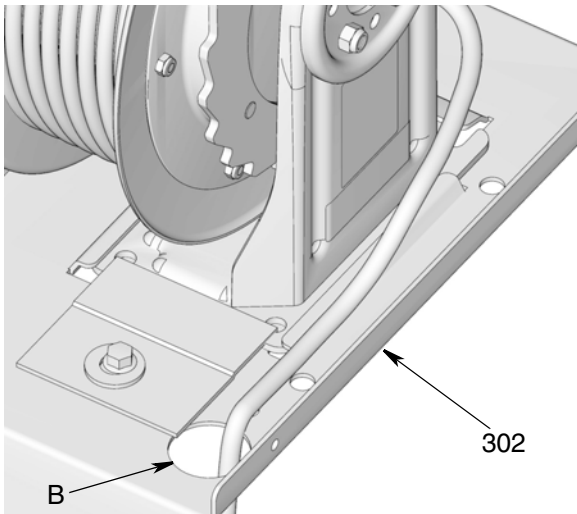

FIG. 7
7. Route power cord through hole (B) in base plate (302) (FIG. 7).